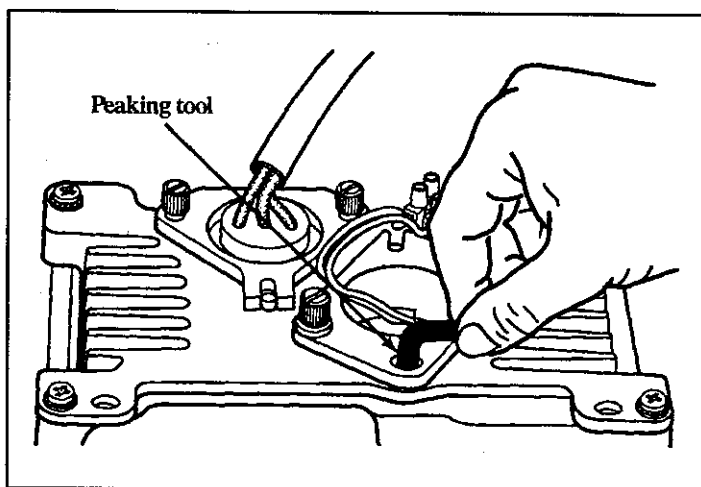

Figure 12-12.
10. Insert the peaking tool into the adjustment hole, on the front corner of the source mounting bracket. See Figure 12-12.